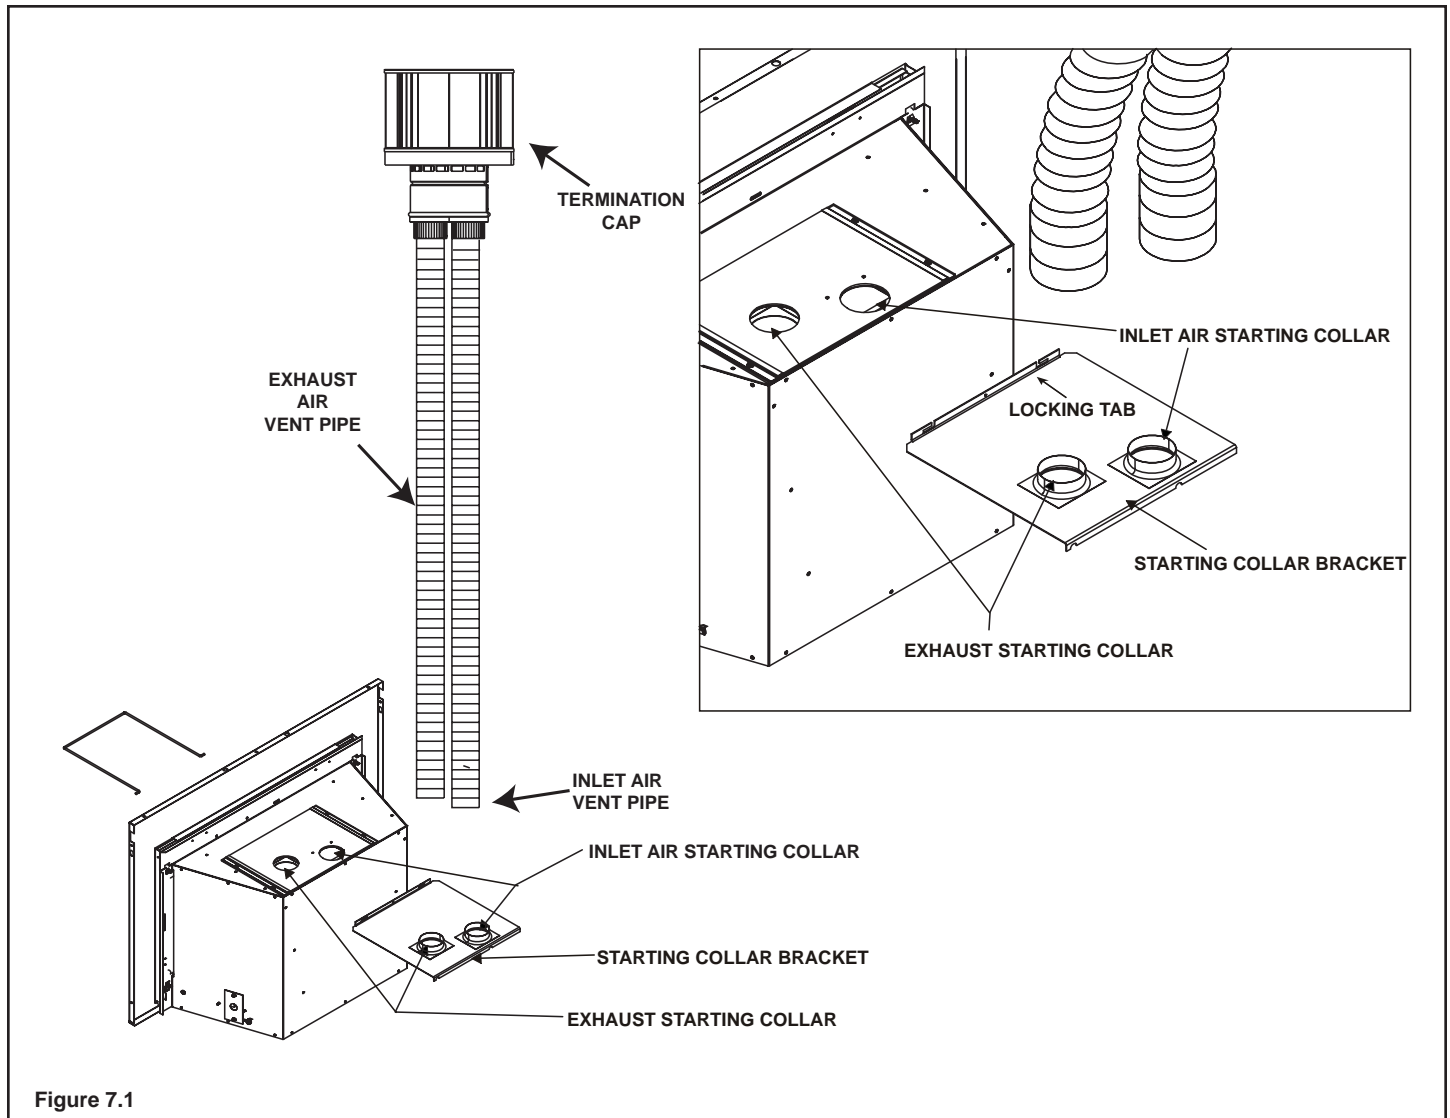

Figure 7.1
- Use three screws to secure the exhaust flexible vent pipe to the 3 foot section stainless steel flexible vent pipe using the factory-installed 3-inch collar in the stainless steel section of pipe (see Figure 7.1).
- Use 3 screws to attach either a 4 foot or 30 foot section of inlet air vent to the inlet collar on the collar slide plate (see Figure 7.1). NOTE: The collar slide plate may be removed from appliance to aid installation.
- Secure collar slide plate to appliance by placing locking handle into position with locking tabs (see Figure 7.1) and secure with #8 screw.